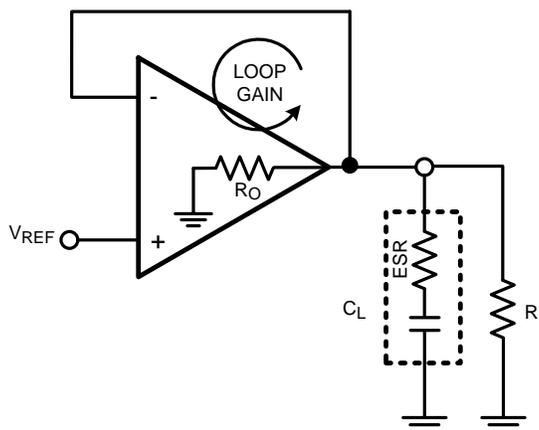

Figure 39.
Figure 39 shows a basic model for the linear regulator that helps describe what happens to the output signal as it is processed through its feedback loop; that is, describe its loop gain (LG). The LG includes two main transfer functions: the error amplifier and the load. The error amplifier provides voltage gain and a dominant pole, while the load provides a zero and a pole. The LG of the model in is described by Equation 18: